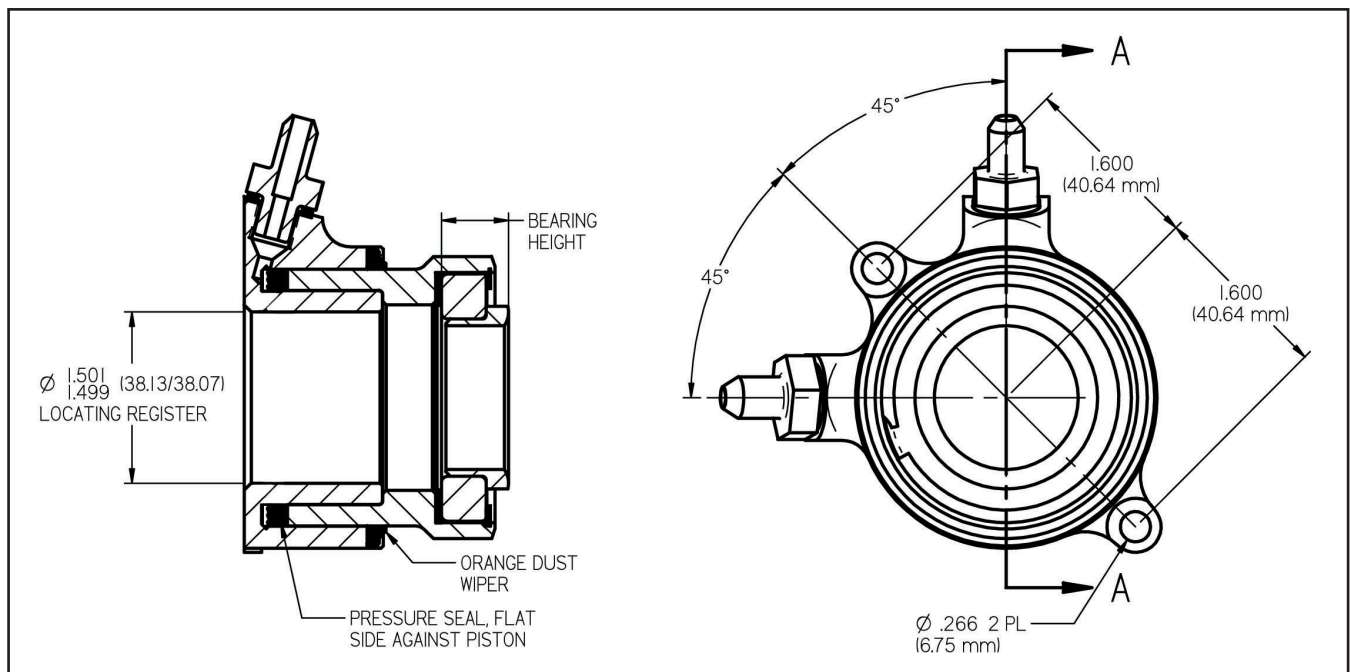

Figure 1
- 2) For custom applications where you will make your own adapter see **Figure 1** for the mounting configuration. The two holes in the base are sized for both 1/4" and 6 mm fasteners. You will want to locate (center) the assembly using the inner diameter of the base. If there is an existing pilot tube it must be removed or trimmed to below the top of the hydraulic release bearing base.